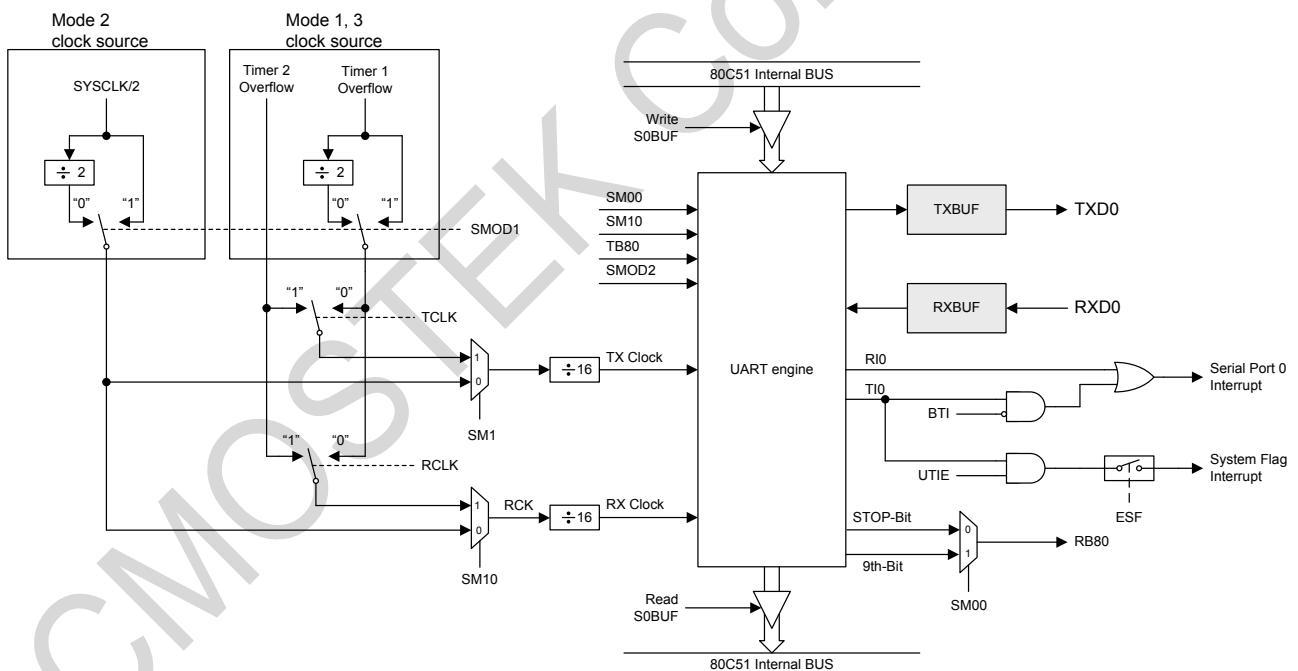

Figure 17-6. Serial Port Mode 1, 2, 3
10 bits are transmitted through TXD0, or received through RXD0: a start bit (0), 8 data bits (LSB first), and a stop bit (1). On receive, the stop bit goes into RB80 in S0CON. The baud rate is determined by the Timer 1 or Timer 2 overflow rate. Figure 17-1 shows the data frame in Mode 1 and Figure 17-6 shows a simplified functional diagram of the serial port in Mode 1.